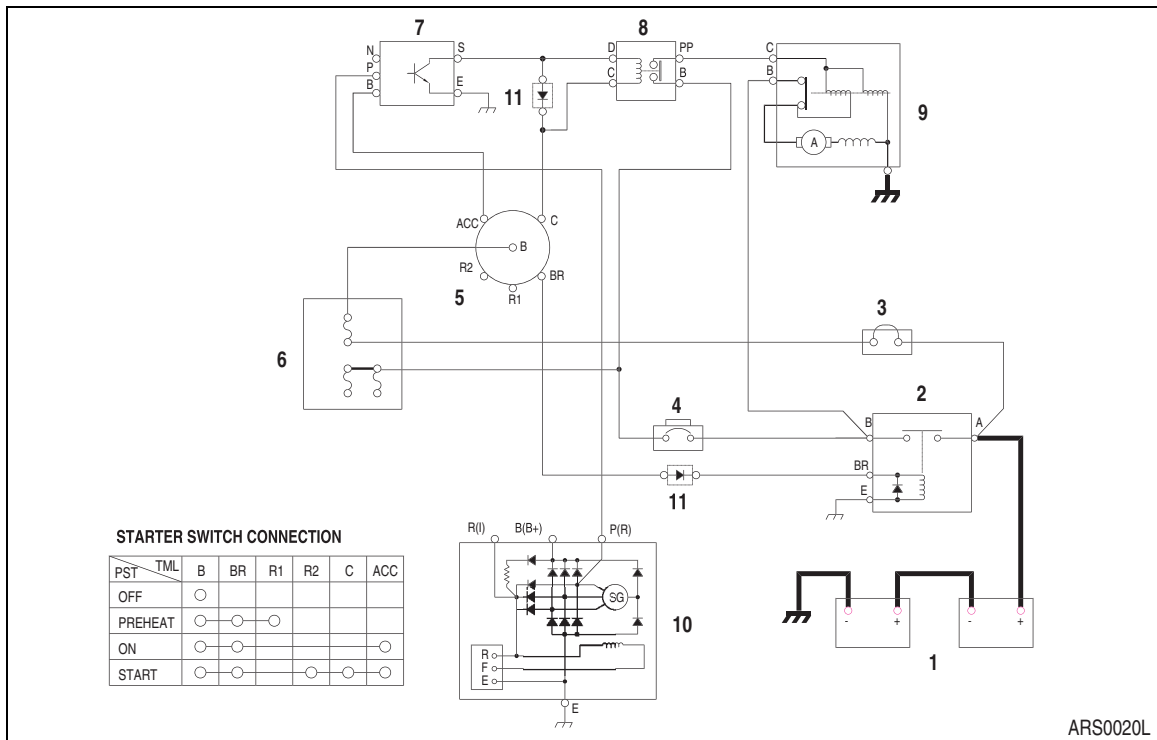

Figure 2 STARTER CIRCUIT (1) - WHILE STARTING
When the starter switch is turned to the start position, the "E" terminals of the starter controller (7) are connected. At this time the contacts in the starter relay (8) are closed by the current flow from the battery (1, Figure 2) → fusible link (3) → "B" terminal of the starter switch (5) → "C" terminal of the starter switch (5) → "C" terminal of the starter relay (8) → "D" terminal of starter relay (8) → "S" terminal of starter controller (7) → "E" terminal of the starter controller (7) → ground.
The current flows from the battery (1) → "A" terminal of the battery relay (2) → "B" terminal of the battery relay (2, Figure 2) → "B" terminal of the starter (9). The starter motor is rotated and the engine is started.